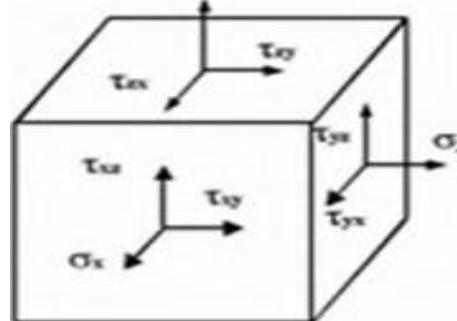

Figure 3 – General Triaxial Stress State
- Triaxial Stresses – The nine stress components that could act on an infinitesimal cube. The stresses shown in Figure 3 are all shown in a positive direction.
The triaxial stress cube shown in Figure 3 is used to represent the applied stresses acting on an element. For any combination of applied stresses, there is a continuous distribution of the stress field at any point analyzed. Normal and Shear stresses vary with direction in any coordinate system used. There will always be planes on which the components of shear stress will be equal to zero. The normal stresses acting on these planes are called principal stresses. The planes on which they act are called principal planes. These stresses are often termed and ordered as $\sigma_1 > \sigma_2 > \sigma_3$.